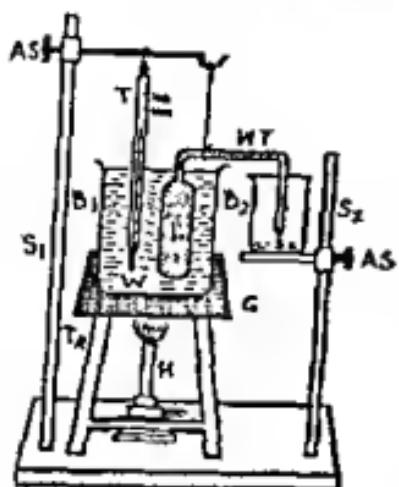

fig. 5.2
5. Suspend the weight thermometer in the water bath with its mouth inside beaker  $S_1$  as shown in the fig. 5.2 and then heat it.